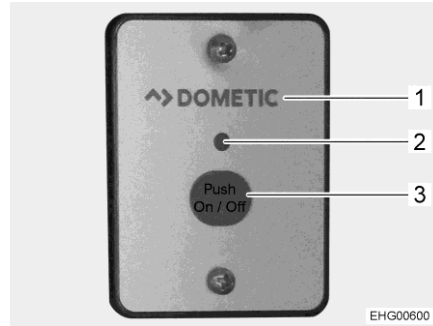

Fig. 151 External switch (AC converter)
The external switch (Fig. 151,1) is installed in the wall-mounted cupboard above the table.
- Press "On/Off" button (Fig. 151,3). The LED (Fig. 151,2) is on.
- Press "On/Off" button (Fig. 151,3). The LED (Fig. 151,2) goes out.